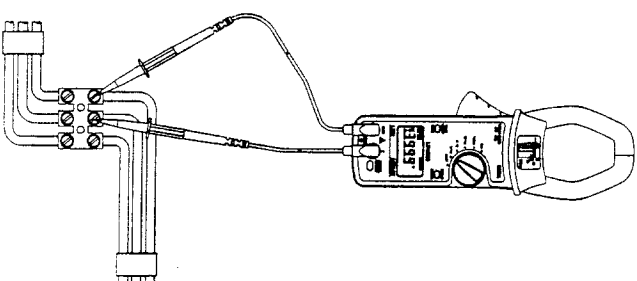

Fig. 3
- Insert the test leads into the sockets on the front of the instrument, the red lead to the VΩ terminal and the black-lead to the COM terminal, as shown in Fig. 3.
- Press the trigger to open the jaws and clamp them around the current carrying conductor as shown in Fig. 3
- To measure the frequency of the voltage supply apply the test leads to the circuit as shown in Fig. 3 and read the display